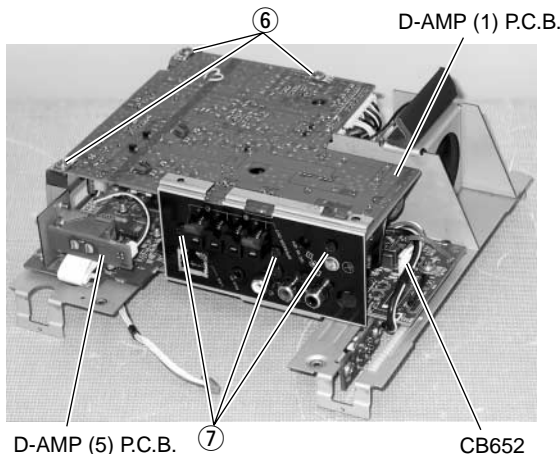

Fig. 5
- Remove 3 screws marked [⑥] and 3 screws marked [⑦]. (Fig. 5)
- Remove CB652. (Fig. 5)
- Remove D-AMP (1) P.C.B. and D-AMP (5) P.C.B.
- ⑥のネジ3本、⑦のネジ3本を外します。(Fig. 5)
- CB652を外します。(Fig. 5)
- D-AMP (1) P.C.B.及びD-AMP (5) P.C.B.を外します。
Install D-AMP (1) P.C.B. and D-AMP (5) P.C.B. as originally installed and connect CB652 which was disconnected during disassembly. (Fig. 5)
D-AMP (1) P.C.B.及びD-AMP (5) P.C.B.は元通りに取り付けます。分解時に外したCB652を接続します。(Fig. 5)